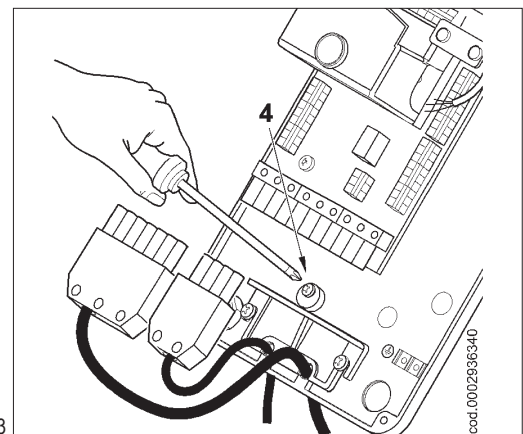
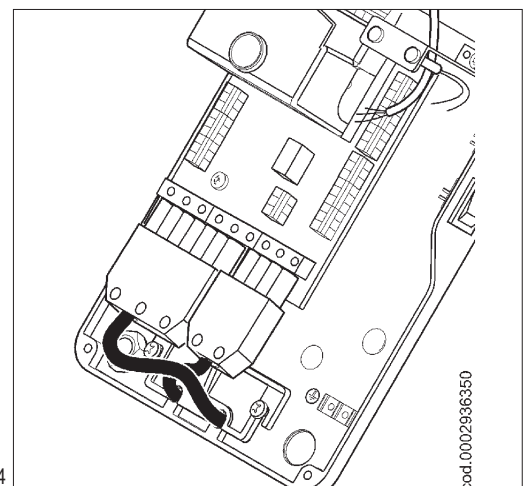

Fig. 3
Fig. 4
- Reposition the cable float plate as in figure 3. Turn the cam (4) so that the float exerts sufficient pressure on the two cables, then tighten the screws that fasten the cable float. Finally, connect the two 7 and 4 pole plugs (see figure 4).